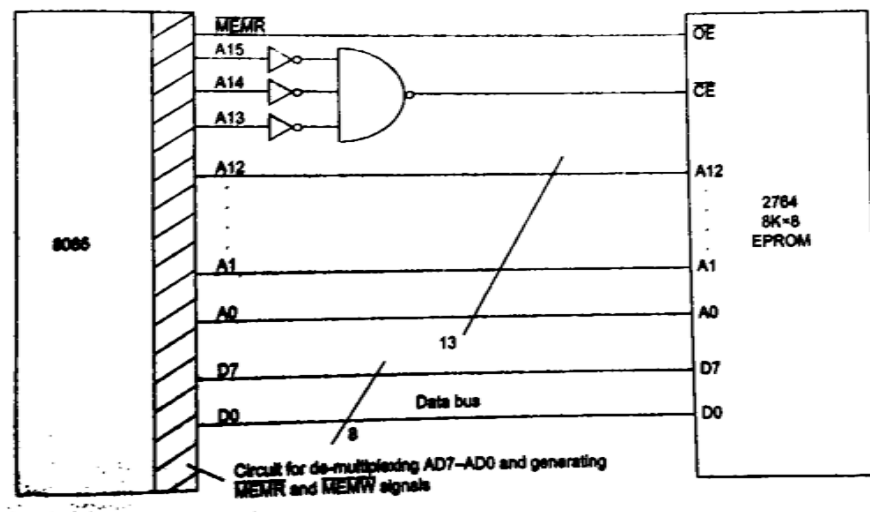

Fig. 17 Interfacing IC 2764 with the 8085
- Chip is enabled whenever the 8085 places an address allocated to EPROM chip in the address bus. This is shown in Fig. 17.